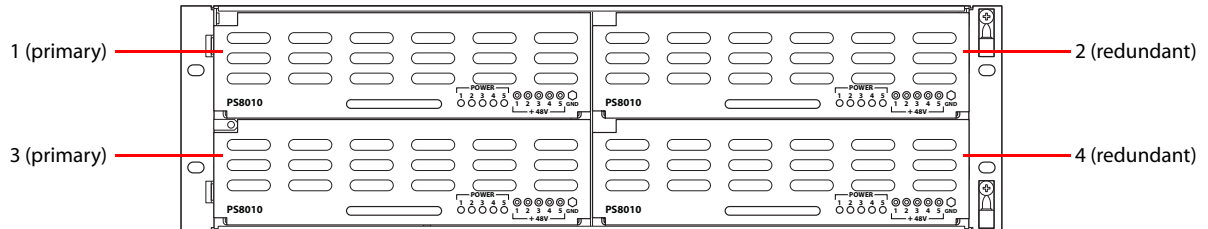

Figure 2-36. Power Supply (Front View)
- 9 Install the PS8100 or PS8300 power supply modules as illustrated in Figure 2-36: